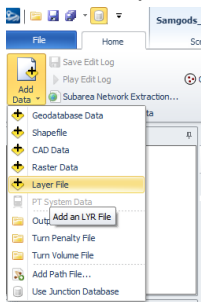

Figure 101 Add data
- 5) Clicking on "Add data>Shapefile" add background shapefiles located under {CATALOG_KEY}\03_Gis_Data (see Figure 101). This is for visual reference only.